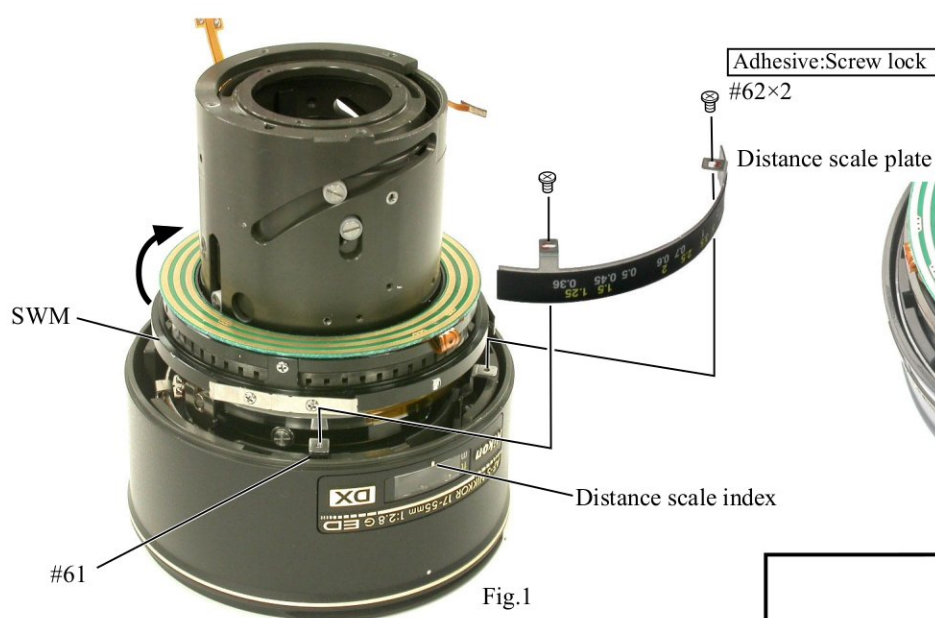

Fig.1
- Attach the distance scale plate to #61 temporarily with 2 screws (#62). (ref. Fig.1)